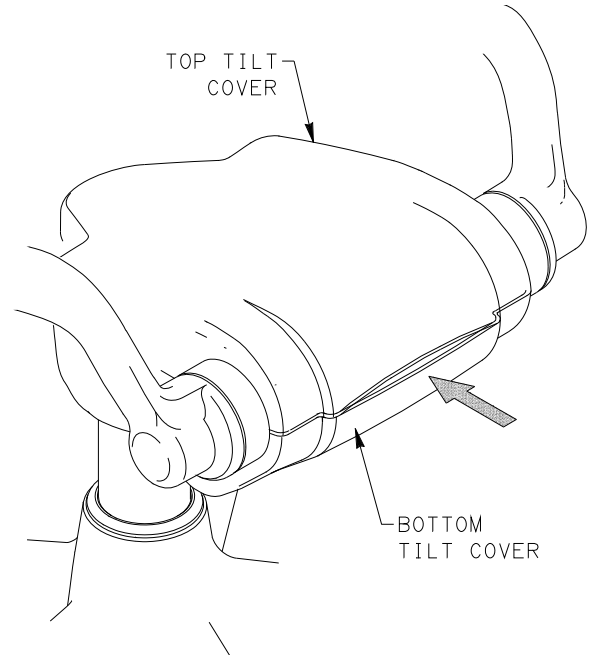

FIGURE 1
9. REPOSITION TOP TILT COVER OVER BOTTOM TILT COVER, MAKING SURE ALL CABLES ARE PROPERLY ROUTED THROUGH CABLE OPENINGS. SNAP COVER HALVES TOGETHER. SEE FIGURES 1 AND 2.